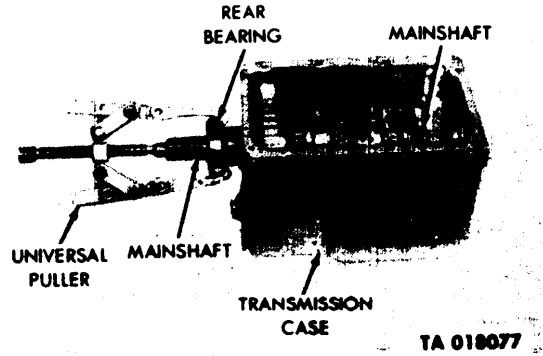

Figure 3-26. Removal of Mainshaft Rear Bearing.
h. *Mainshaft Rear Bearing.* With the use of a block of wood, drive the mainshaft rearward to force the rear bearing from the transmission case. (See fig. 3-26.) Use a universal puller to remove the rear bearing from the mainshaft.